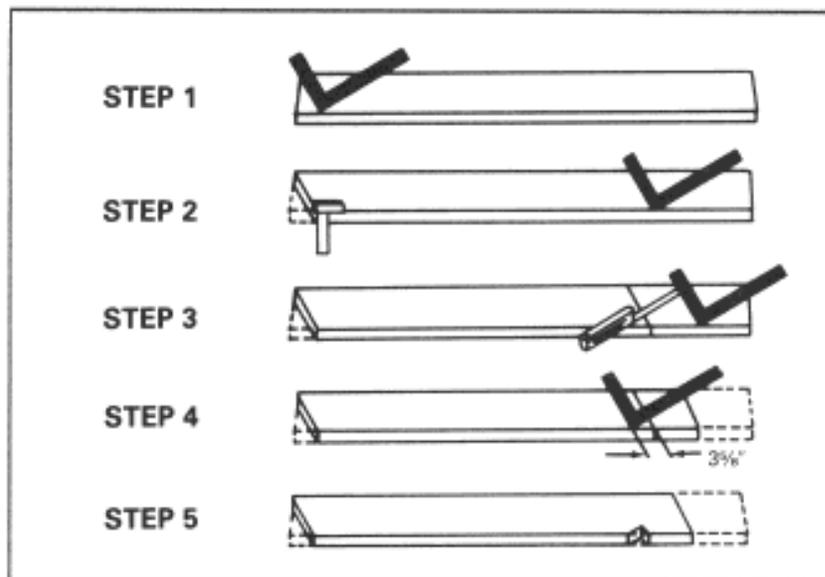

Figure 7-8. Scale or measurement method
*Step 3.* Hold the square with the tongue in your left hand, the blade in your right, and the heel toward your body. Place the square as near the upper end of the rafter as possible. (For example, in Figure 7-8, page 7-6 (step 1) the figures 8 on the tongue and 12 on the blade are placed along the timber edge that is to be the top edge of the rafter.)
*Step 4.* Mark along the outside tongue edge of the square, which will be the plumb cut at the ridge. *Step 5.* Since the length of the rafter is known to be 12 feet and 1/6 inch, measure the distance from the top of the plumb cut and mark it on the timber. Hold the square in the same manner with the 8 mark on the tongue directly over the 12-foot 1/6-inch mark. Mark along the tongue of the square to give the plumb cut for the seat (Figure 7-8, step 2).
*Step 6.* Measure off, perpendicular to this mark, the length of overhang along the timber. Make a plumb-cut mark in the same way, keeping the square on the same edge of the timber (Figure 7-8, step 3). This will be the tail cut of the rafter. Often, the tail cut is made square across the timber.
*Step 7.* The level cut or width of the seat is the width of the plate measured perpendicular to the plumb cut, as shown in Figure 7-8, step 4. Using a try square, square the lines down on the sides from all level and plumb-cut lines. Now the rafter is ready to be cut (Figure 7-8, step 5).